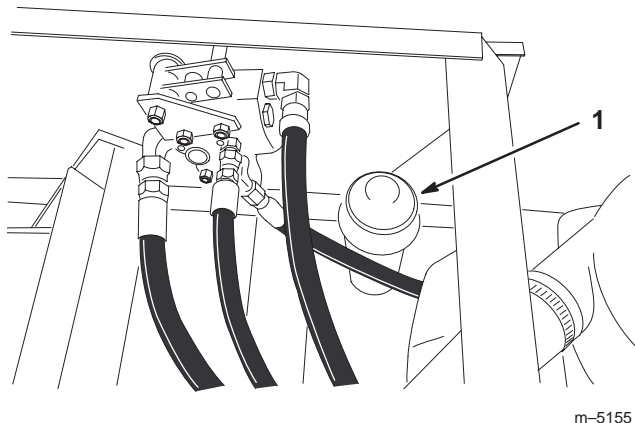

Figure 31
3. Remove the dipstick cap from the filler neck (Fig. 31) and wipe it with a clean rag. Insert the dipstick cap onto the filler neck; then remove it and check the oil level.
5. Install the dipstick filler cap onto the filler neck (Fig. 31).